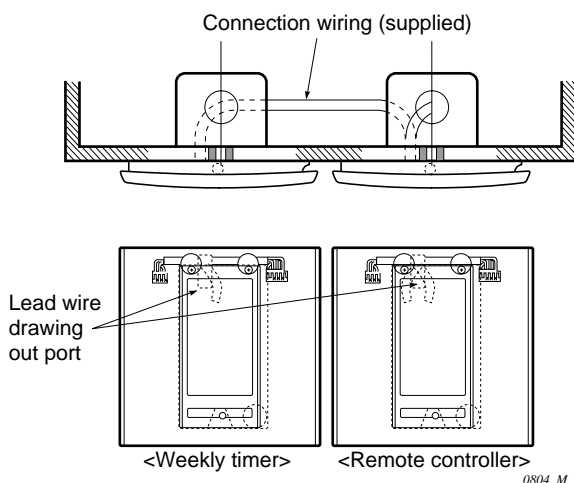

Fig. 7-3
- Pass the supplied connection wiring through the lead-wire drawing-out port on the bottom case of the weekly timer, then run it behind the wall and connect it to the timer terminal (4P terminal) of the remote controller. (Fig. 7-3)